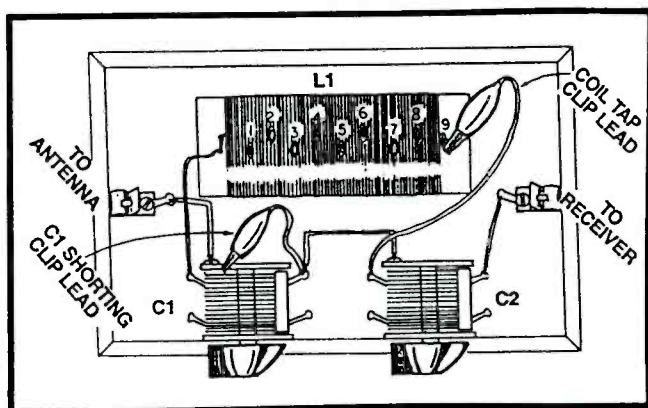

Figure 5: Top view
**STEP 6.** (Refer to Photos #4 and 5 and Figures 5 and 6) Temporarily place the tuning capacitors, coil, and fahnestock clips on the board and lightly outline their locations with a pencil. Use super glue to attach the 3 inch by 1/4 inch coil mounting strips, one inch apart, to the board.
**STEP 7.** (Refer to Photo #6 and Figures 5, 6, and 7) Begin wiring the tuner by scraping the enamel off of the end of the coil lead wire and soldering it to the stator lug of capacitor C1, as shown in Figure 5. Trim the case lead wire of capacitor C1 to the proper length and solder it to the antenna fahnestock clip.